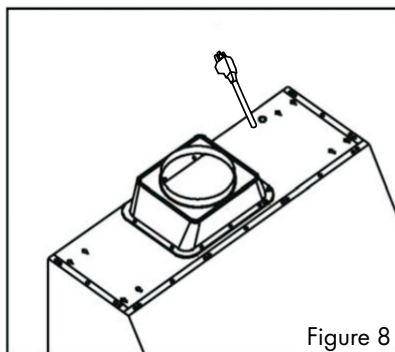

Figure 8
2. Use the included power cord to connect the unit to a 120 V power supply, as shown in Figure 8.